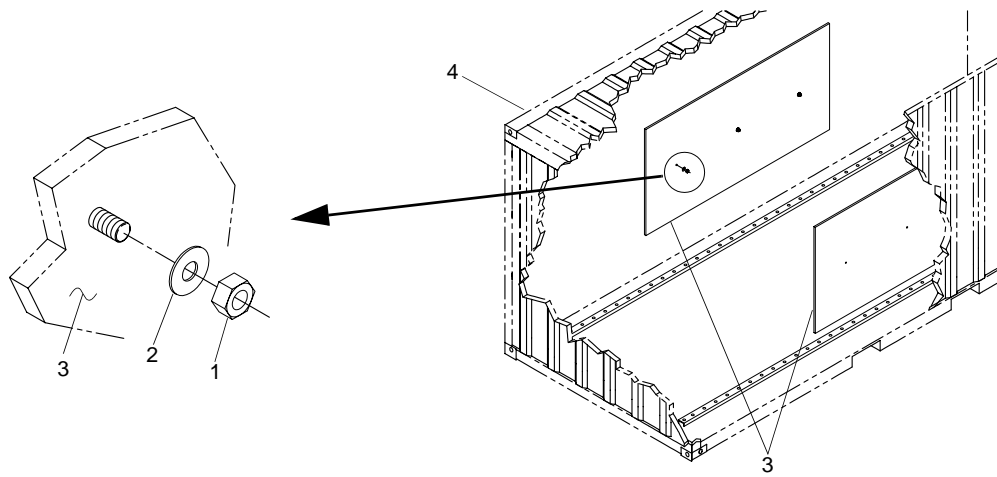
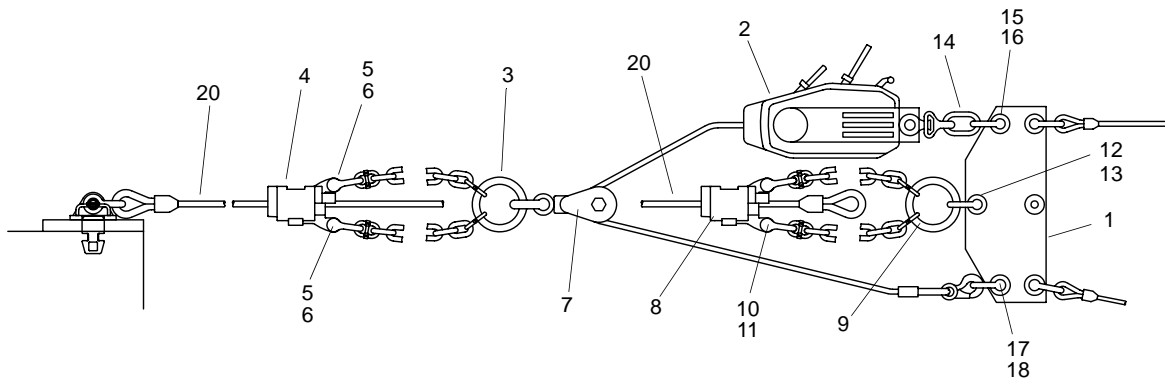
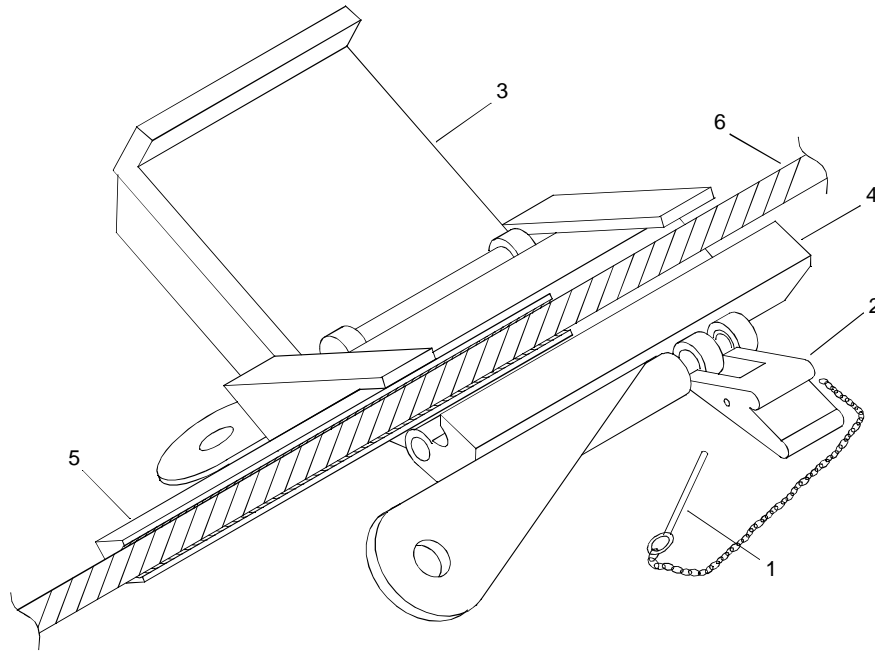

Figure 4. Plywood Storage
Figure 11. Onshore Mooring Equipment Setup
Figure 12. Carpenter Stop
24. Remove nuts (figure 4, item 1) and washers (figure 4, item 2) securing plywood sheets (figure 4, item 3) to container (figure 4, item 4) walls. Position plywood sheets (figure 4, item 3) near anchors on beach.
Pieces of plywood (figure 4, item 3) are provided inside onshore container to prevent dirt and debris from fouling ratchet mechanism of griphoist.
8. Place a plywood sheet (figure 4, item 3) under flounder plate (figure 11, item 1) and griphoist (figure 11, item 2).
9. Connect first carpenter stop (figure 11, item 4) to ring and chain assembly (figure 11, item 3) with 1 in. shackles (figure 11, item 5) and pins (figure 11, item 6).
10. Connect ring and chain assembly (figure 11, item 3) to shackle on snatch block (figure 11, item 7).
11. Connect second carpenter stop (figure 11, item 8) to ring and chain assembly (figure 11, item 9) with 1 in. shackles (figure 11, item 10) and pins (figure 11, item 11).
12. Connect ring and chain assembly (figure 11, item 9) to flounder plate (figure 11, item 1) with 1 in. shackle (figure 11, item 12) and pin (figure 11, item 13).
13. Connect 1 in. master link (figure 11, item 14) to flounder plate (figure 11, item 1) with 1 in. shackle (figure 11, item 15) and pin (figure 11, item 16).
14. Attach 1 in. shackle (figure 11, item 17) and pin (figure 11, item 18) to flounder plate (figure 11, item 1).
15. Connect fixed end of griphoist (figure 11, item 2) to master link (figure 11, item 14).
16. Route griphoist (figure 11, item 2) cable through snatch block (figure 11, item 7) and attach free end of cable to 1 in. shackle (figure 11, item 17).
17. Center equipment layout on mooring cable (figure 11, item 20).
18. Clamp mooring cable (figure 11, item 20) in first carpenter stop (figure 11, item 4).
- a. Pull latch pin (figure 12, item 1), open latch (figure 12, item 2) and raise cover (figure 12, item 3) of first carpenter stop (figure 11, item 4 and figure 12, item 4).
- b. Withdraw wedge (figure 12, item 5) as far as possible from first carpenter stop (figure 12, item 4).
- c. Lay mooring cable (figure 12, item 6) in wedge (figure 12, item 5).
- d. Close cover (figure 12, item 3) and latch (figure 12, item 2) and secure with latch pin (figure 12, item 1).
- e. Hammer wedge (figure 12, item 5) into first carpenter stop (figure 12, item 4) to clamp and hold mooring cable (figure 12, item 6).
19. Disconnect mooring cable (figure 11, item 20) from bulldozer.